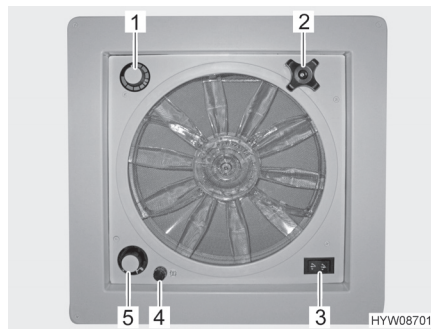

Fig. 75 Skylight with fan
- ▷ A 4 A fuse (Fig. 75,4) protects the fan motor against overloading. If an overload has occurred: Determine and correct the cause (e.g. dirty fan) before replacing the fuse.
- Turn the rotary handle (Fig. 75,2) until the desired opening angle is reached.
- Set the flip switch (Fig. 75,3) to "Aerate" (air flows from the outside inwards) or "Vent" (air flows from the inside outwards).
- Set flip switch (Fig. 75,3) to the central position.
- Turn the rotary switch (Fig. 75,5) to the desired setting:
- Turn the thermostat (Fig. 75,1) as far as possible in the "blue" direction.
- Turn the black cover (Fig. 75,4) counterclockwise a quarter of a turn.